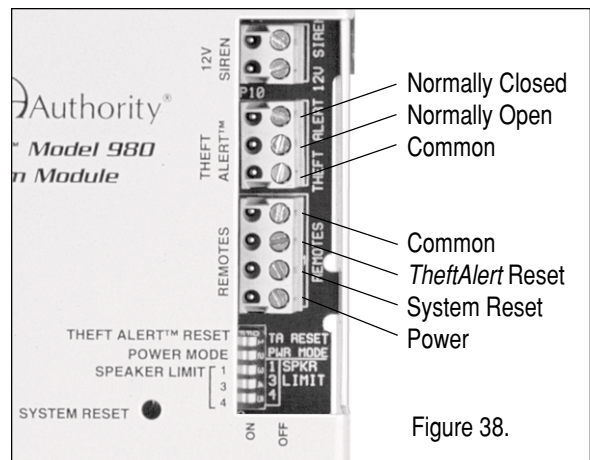

Figure 38.
- Connect a 12 volt DC siren or other device, drawing less than 1 amp, to the (+) and (-) “12V Siren” terminal block on the Model 980 (see Figure 38).
- Connect a SPST switch between the “Reset” and “COM” pins on the “Remotes” terminal block located on the 980 (see Figure 38).